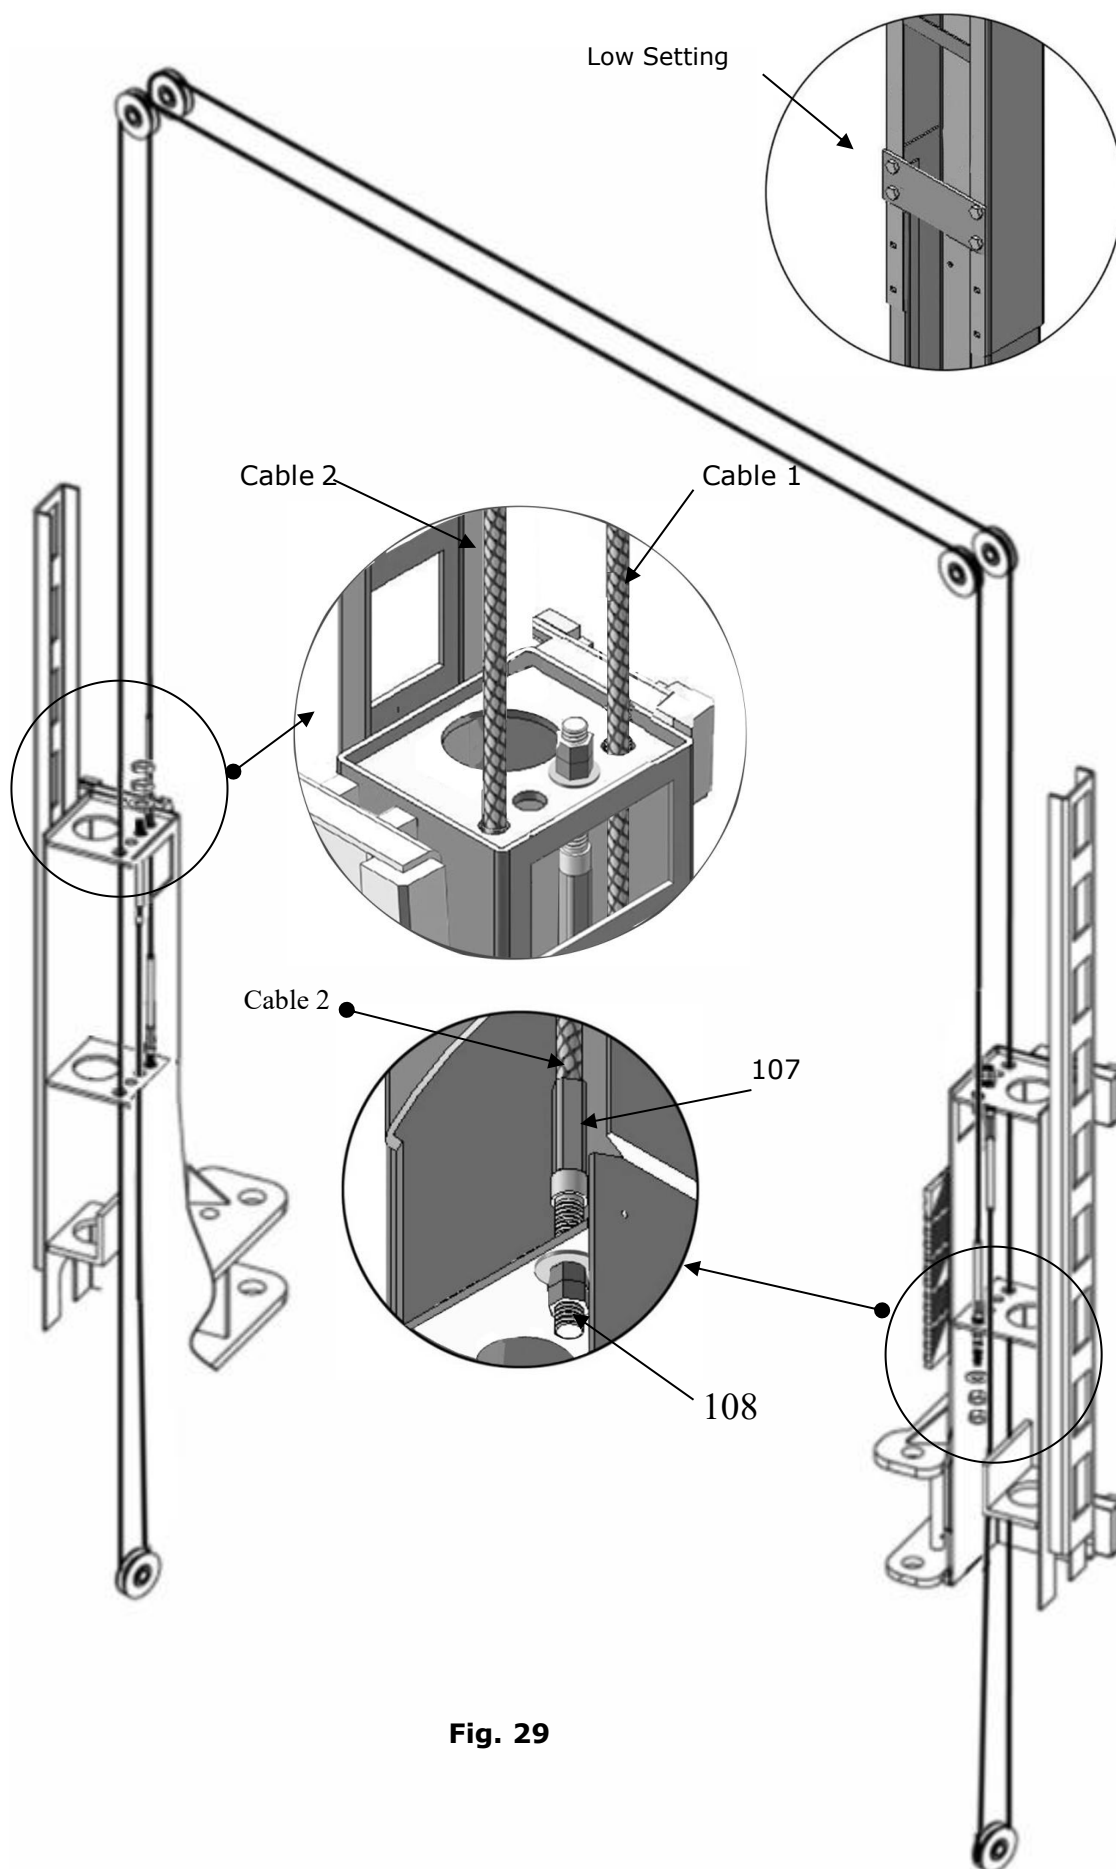

Fig. 29
2. Low setting cable connection. (See Fig. 29).